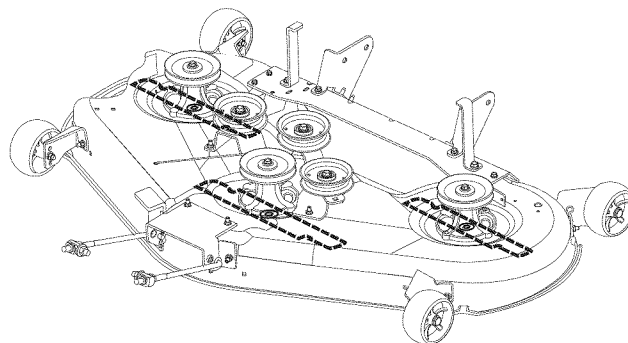

Figure 39. Orient Blades Side-to-Side
4. Set the cutting height to mid position. Arrange the mower blades so that they are pointing from side-to-side (Figures 39 & 40).